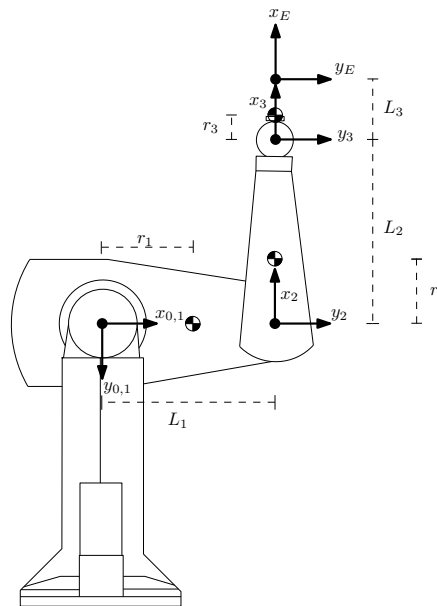

Figure 1: Puma RRR planar manipulator in zero configuration.
In this assignment you will derive the Denavit–Hartenberg (DH) parameters and compute the gravity vector of the RRR planar manipulator shown in Fig. 1, which corresponds to the 3-DOF mode of the Puma 560. The three joints in this mode correspond to the joints 2, 3, and 5 of the robot. Each link i has a mass m_i . Each center of mass (COM) is located at distance r_i in X -direction of frame i . The i -th joint angle is called q_i .
Use the frame assignment depicted in Fig. 1 to derive the DH parameters. The figure shows the zero configuration of the robot.